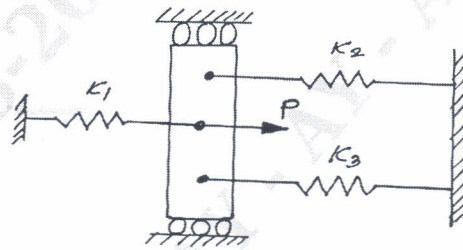

Fig Q1(b)
- b. Solve by principle of minimum potential energy method for the spring system shown in Fig Q1(b).